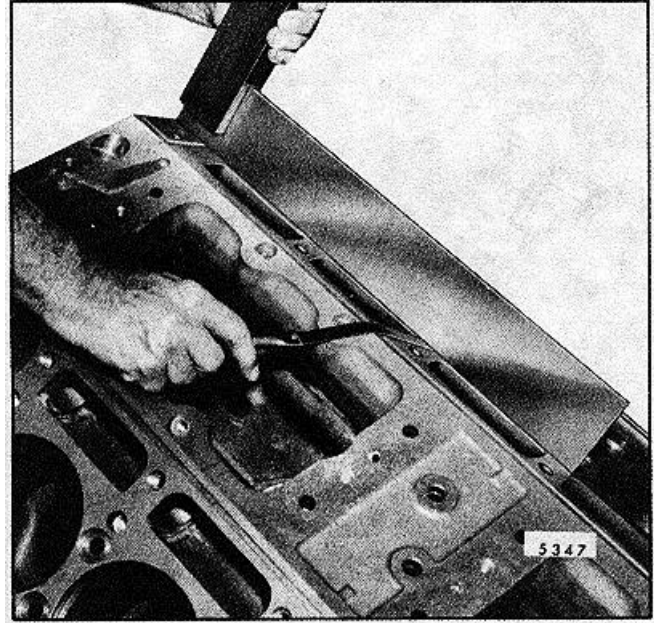

FIG. 12 - Checking Top Surface of Cylinder Block
5. Check the top of the block (cylinder head contact surfaces) for flatness with an accurate straight edge and a feeler gage (Fig. 12).